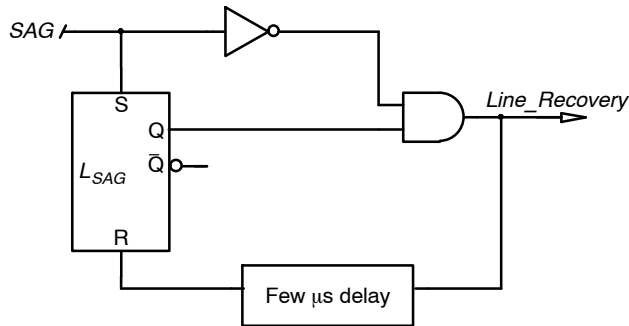

Figure 20. “Line_Recovery” Signal
- When the soft-stop sequence ends, the PFC stops operating until the T_{BUV} delay has elapsed (515 ms typically). However, if the BUV protection trips during a line sag condition, the T_{BUV} delay is bypassed and operation immediately resumes when the line recovers. The wakeup information is provided by signal "Line_Recovery" generated by the line-sag block (see Figure 20). This enables a rapid operation recovery when the line fault is over.
When a line-sag condition is detected, the NCP1618 starts a soft-stop sequence to gradually discharge $V_{CONTROL}$ down-to-zero and hence, to smoothly stop operation. It also disables the CCM mode to reduce more rapidly the power delivery during the line-sag period. When the line recovers, it is required to restart the operation as soon as possible and in a clean manner. Signal “Line_Recovery” of Figure 20 provides the wakeup information.